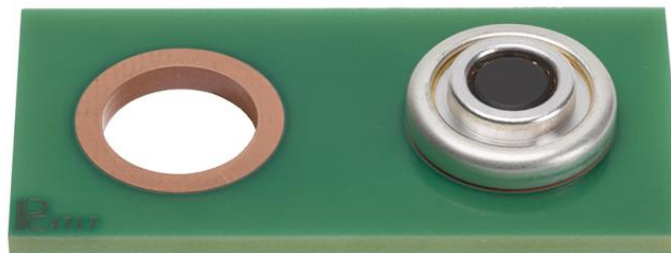

Figure 1
5. Lightly hand or pick and place the Sentrality socket into center of above verified hole making sure to not press the solder out of the way (see Figure 1 for reference)